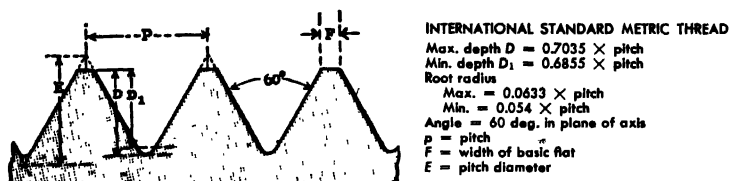

Fig. 17-8. The International Standard Metric thread. (*The Shell Oil Company*)
*The International Standard Metric Thread* (Fig. 17-8). The International Standard Metric thread form has sides set at a 60-deg. included angle, the same as for the sharp V thread and the American National. It differs from the American National, however, in that the depth is a little greater and that the bottom is rounded to a radius of approximately  $\frac{1}{16}$  of the pitch. But the top flat is the same as the American National, or  $\frac{1}{8}$  of the pitch. The advantages of this thread form is the added strength provided by the greater depth, and the clearance between the flat top of one thread and the round root of a matching thread which eliminates the possibility of binding.